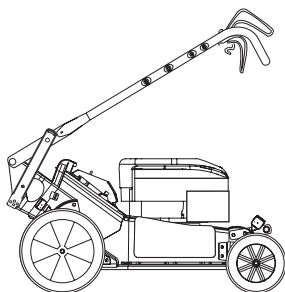

Figure 8
3. Adjust handlebar forward to service position and secure (Figure 8).